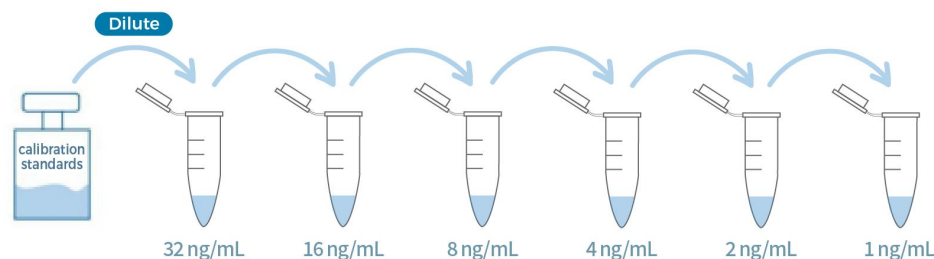

Figure 2. Graphic scheme of BSA Calibration standard solutions
- Prepare BSA Calibration standard solutions as indicated in Fig 2 and Table 3.